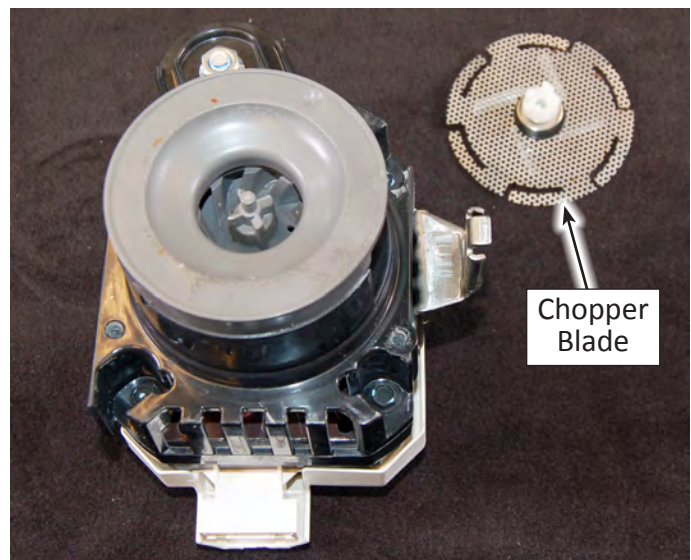

Figure 7
9. Remove the Chopper Blade from the motor assembly (see Figure 7).